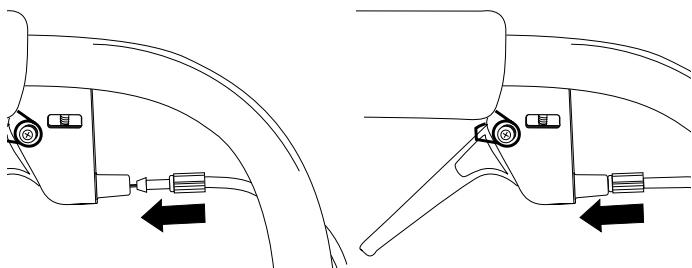

Figure 12
4. Release the throttle trigger and guide the cable up into the slot of the trigger housing. See Figure 12.